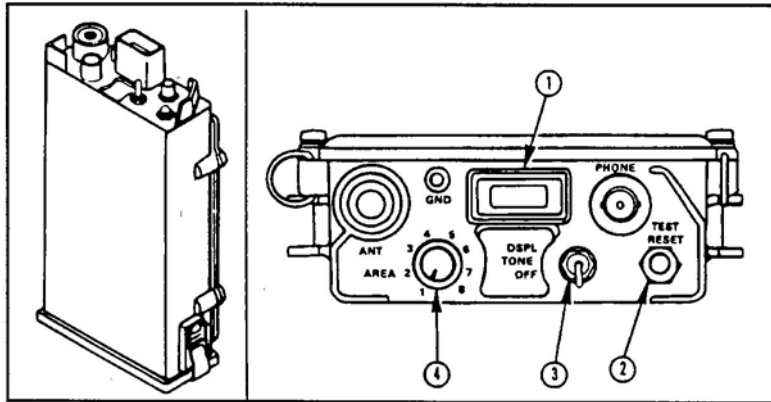

Figure 8. Receiver.
- a. Receiver (Figure 8).
- (1) The display (DSPL) window (1, Figure 8) shows the identification number of the detector(s) transmitting to the receiver when the detector has been activated, and shows the type of intruder. The first two digits shown are identification numbers (1 to 16), and the last digit will be either a "P" (personnel intruder) or "C" (vehicle intruder).
- (2) The TEST-RESET button (2, Figure 8) is used to test the receiver battery and display. The button also is used to erase alarm messages from the receiver memory and to clear the display.
- (3) The DSPL-TONE-OFF switch (3, Figure 8) has three positions.
- (4) The AREA switch (4, Figure 8) has eight positions. Each set of detectors is assigned an area number.